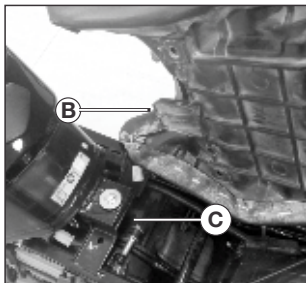

Fig. 2
- Match & insert the seat lug (B) in frame bracket (C) provided below fuel tank rear mounting (Fig.2).